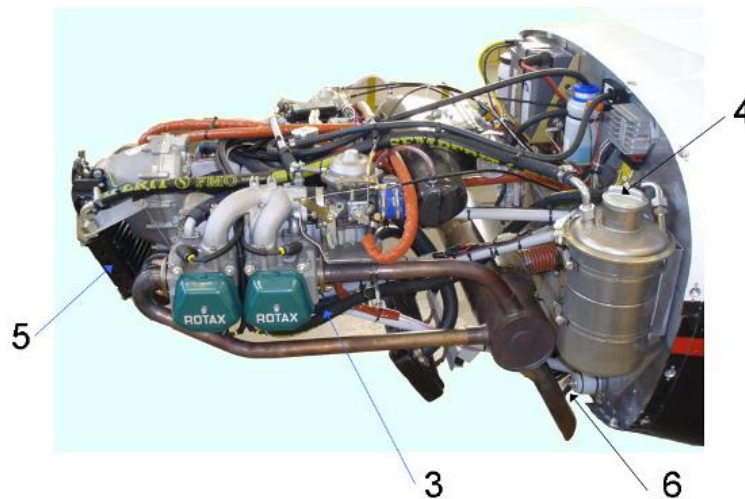

Fig. 10-4
Engine lubrication system (see Fig. 10-4) is made with the dry sump. Engine lubrication system is equipped with the mechanically driven oil pump (1) which ensures oil supply from the oil tank (4) located on the firewall through the oil cooler (5) and the oil pump with oil filter (1) to the lubricated points on the engine. The oil pump is equipped with the pressure regulator and with the pressure transmitter. The oil tank is ventilated by the hose (6) which leads under the airplane. Oil pressure and temperature are indicated on the round analog instruments in the right section of the instrument panel.